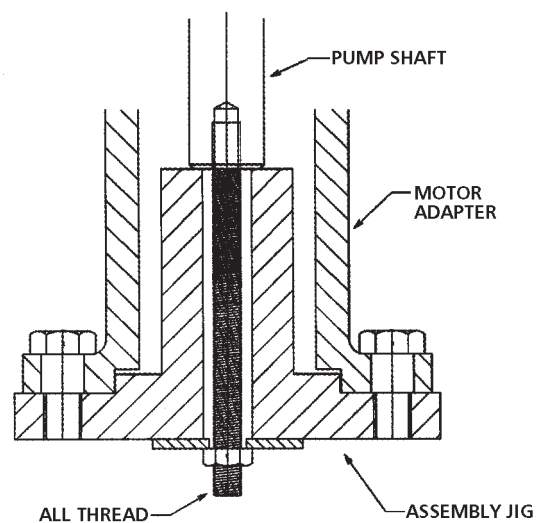

Figure 4 – Assembly Jig
- A. Secure the submersible assembly jig to the motor end of the motor adapter. See Figure 4. Be sure to use the proper jig for the motor frame size the bowl assembly is intended to adapt to.
- B. Put some grease in the suction bearing of the motor adapter. Slide the shaft through the bearing. Secure the shaft in place by locking the shaft to the assembly jig with a special long bolt or all thread and a hex nut. See Figure 4.